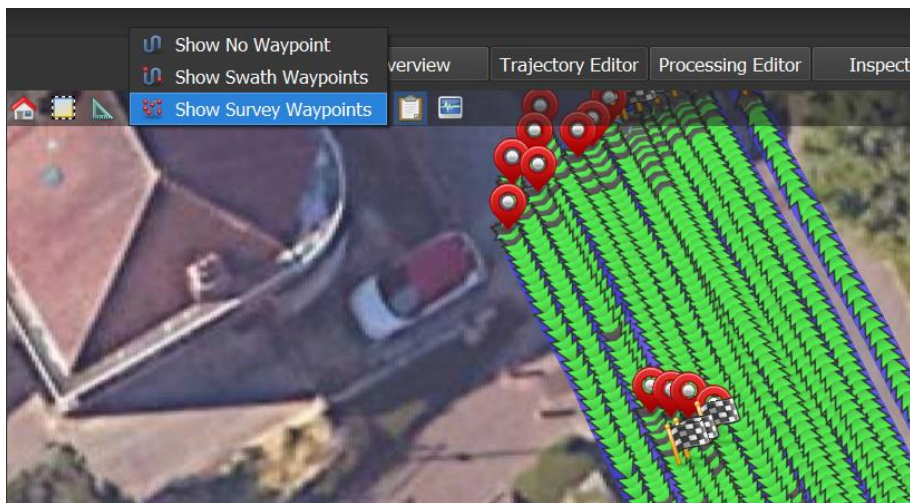

Fig. 51 Show Survey trajectory Waypoints
3. Select “**Show Survey Waypoints**” to visualize the waypoints of the whole survey (Fig. 51).